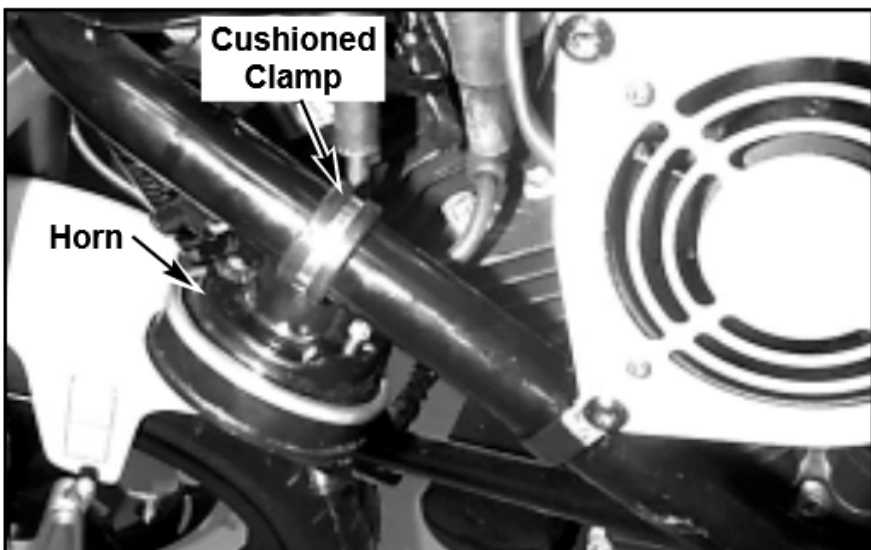

Figure 5. Install Horn to New Location
- See Figure 5. Obtain cushioned clamp (P/N C0529.8) and install horn to frame at location shown using nut saved during horn removal (Step 2). Tighten to 12.4-15.0 in-lbs (1.4-1.7 Nm) and connect horn terminals.